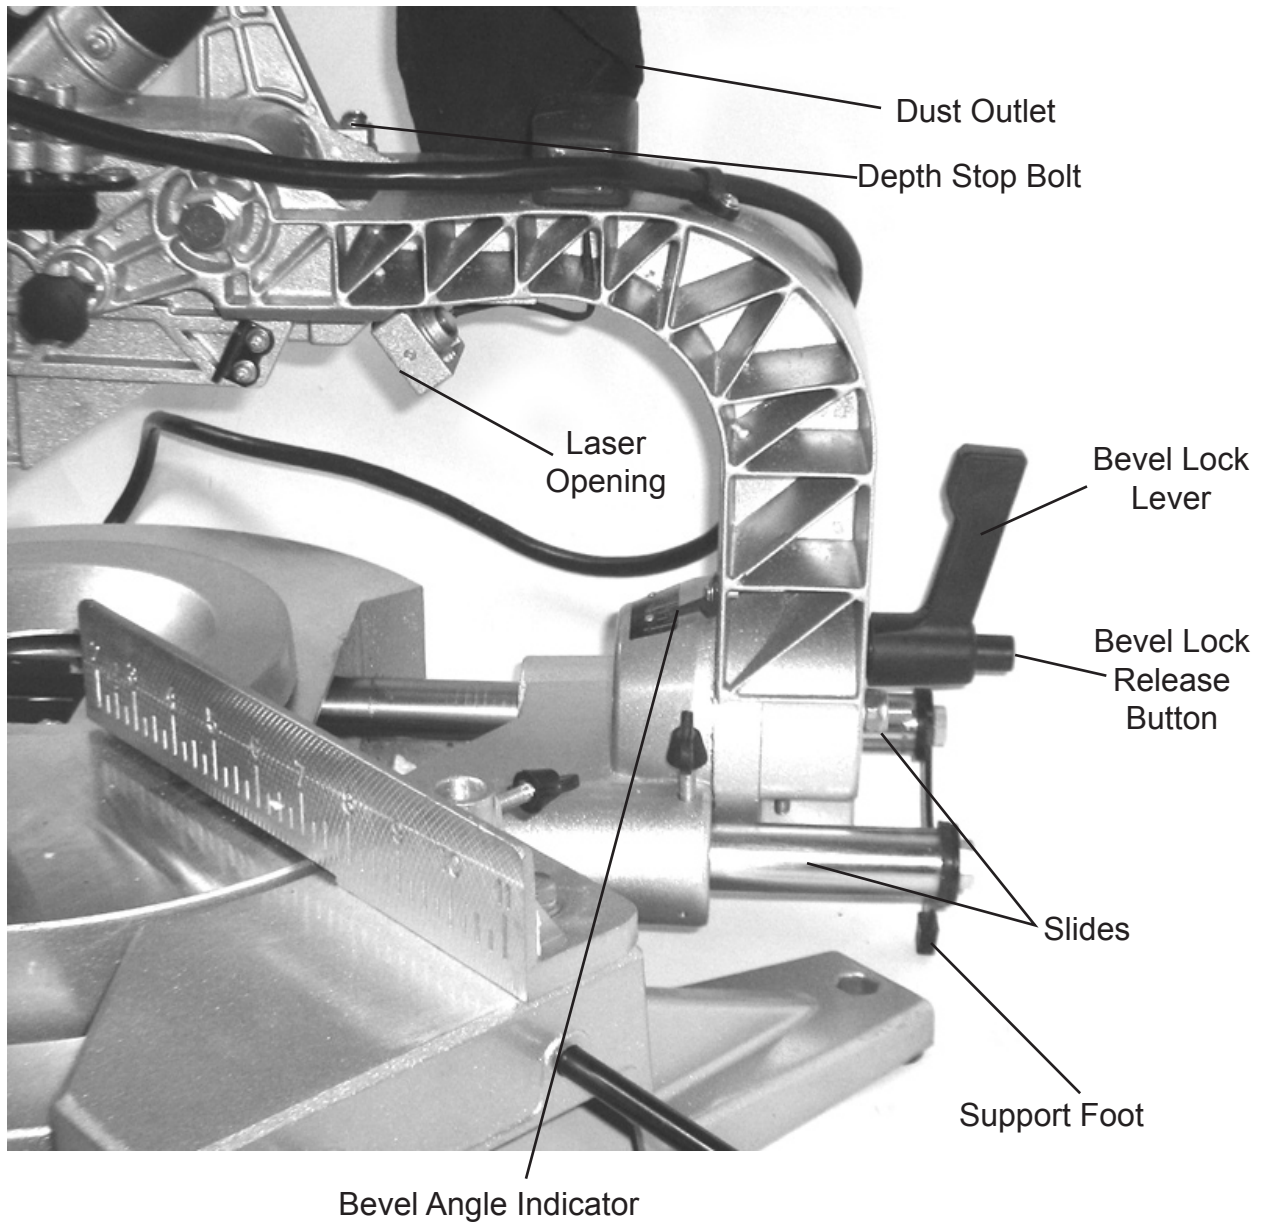

Figure 2
3. To set the bevel angle, loosen the Bevel Lock Handle at the rear of the saw. (See Figure 2.) To do this, press in the Lock Button and rotate the Handle 1/2 turn counterclockwise. Move the blade assembly left to the
1. If you want to make a kerfing or rabbet cut which does not cut through the work piece, you can use the Depth Stop Bolt to control the depth of the cut. (See Figure 2.)